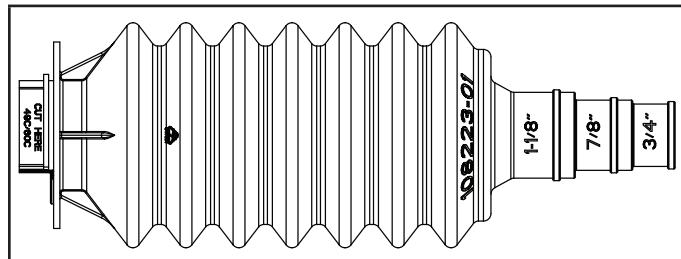

FIGURE 3. Line Set Joint Sleeve
- 2 - Determine the refrigerant suction line size. For suction lines of 7/8" or 1-1/8", trim the smaller end of the larger line set joint sleeve accordingly to accommodate the refrigerant piping (see figure 3).
NOTE – For sizes 48, 49, 50 and 60C, cut off marked section on line set joint sleeve (see figure 3)